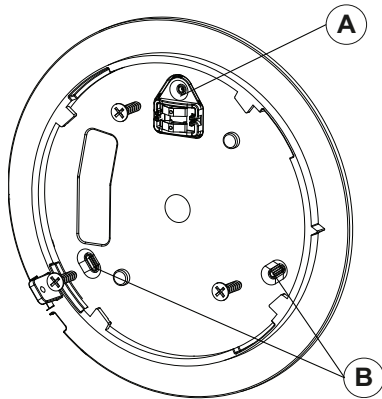

Figure 5. Fastening the bracket
3. Align the bracket tabs with the detector slots and rotate the detector clockwise. Verify that it is securely attached (see Figure 5).